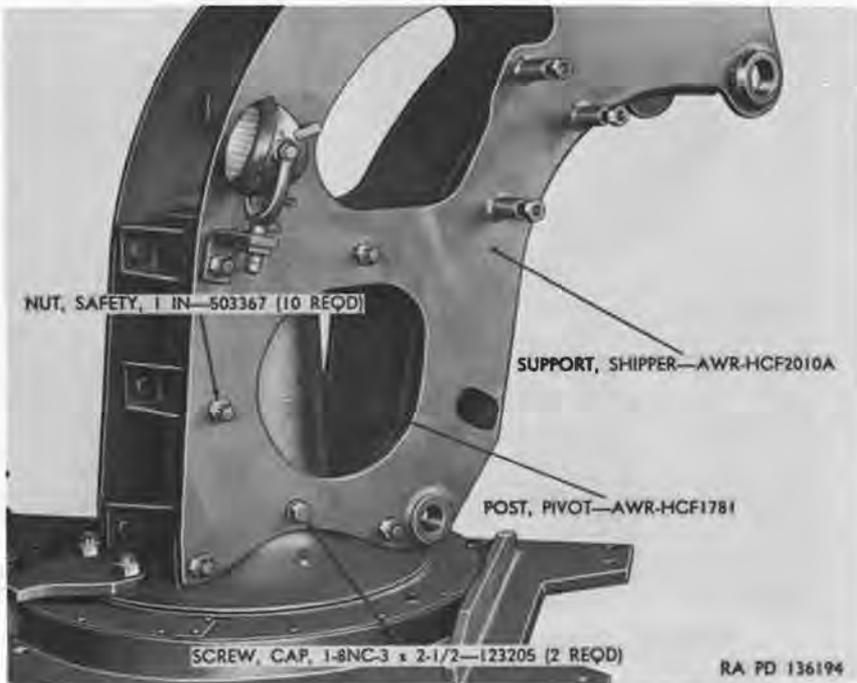

Figure 42. Disconnect points for shipper support removal.
- (1) Remove ten safety nuts and cap screws and two cap screws and lockwashers from shipper screws (fig. 42). Remove support from pivot post.